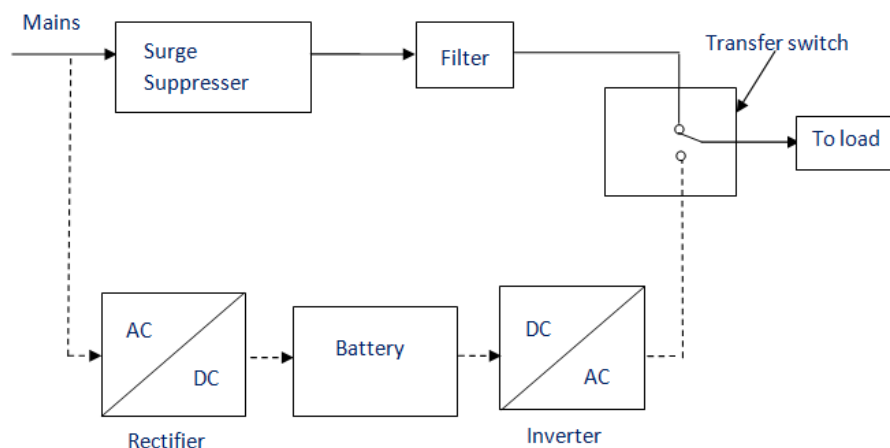

Figure 1
**Off-line UPS:** This UPS is also called as Standby UPS system which can give only the most basic features. Here, the primary source is the filtered AC mains (shown in solid path in figure 1). When the power breakage occurs, the transfer switch will select the backup source (shown in dashed path in figure 1). Thus, we can clearly see that the stand by system will start working only when there is any failure in mains. In this system, the AC voltage is first rectified and stored in the storage battery connected to the rectifier.